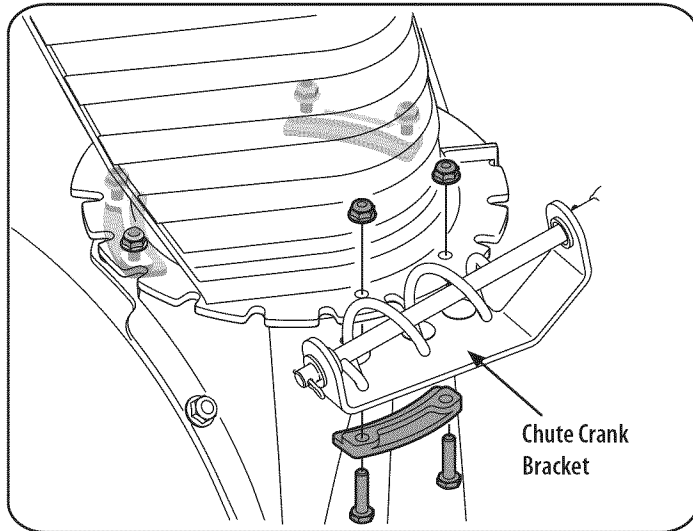

Figure 4
1. Remove lock nuts and screws securing one of the flange keepers to the chute assembly. Loosen the fasteners of the other two flange keepers. See Figure 4.
3. Secure flange keeper removed earlier with lock nuts and screws. Tighten down nuts securing the other two flange keepers. See Figure 4.